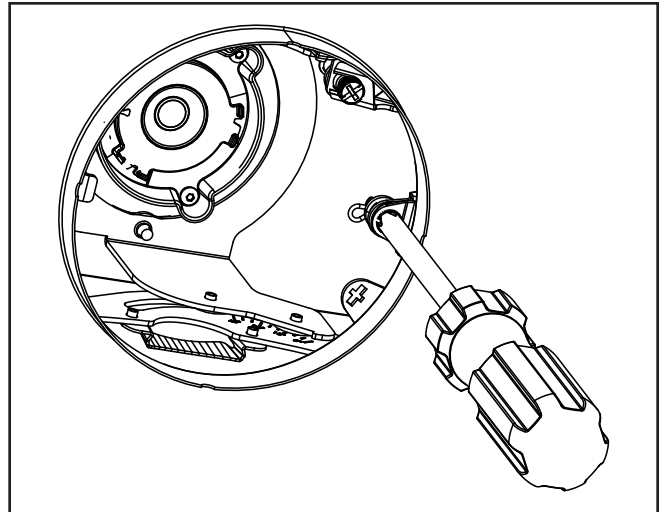

Figure 7a
2. Loosen the rotation lock down screw using a Phillips No. 2 screwdriver (see Figure 7a).
4. Tighten the rotation lock-down screw to secure the desired position. (Do not over-torque) (see Figure 7a).